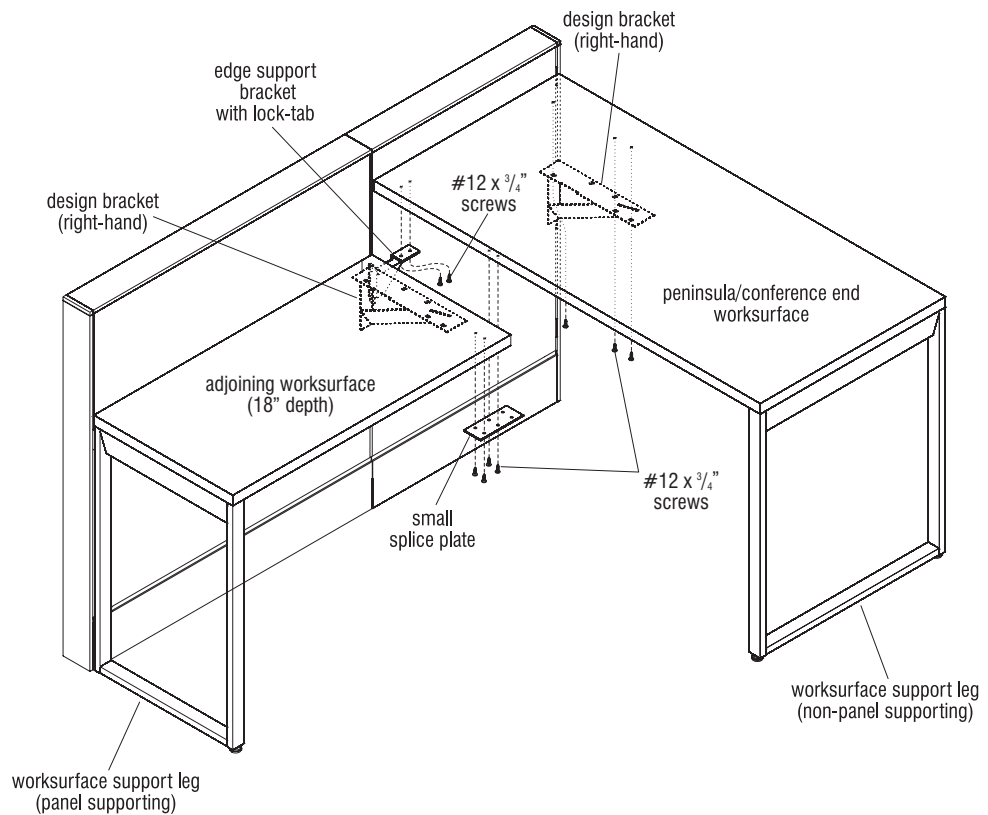

Figure 18 - Peninsula/Conference End Worksurface Installation
4. Carefully turn the peninsula or conference end worksurface right-side up next to the adjoining worksurface and position the panel-mount end onto the mounting brackets installed to the panel (edge support bracket and design bracket illustrated). Align the pre-drilled holes in the underside of the worksurface with the mounting holes in the brackets and secure using #12 x 3/4" screws. Take care to not over-tighten mounting screws (Figure 18).
5. Position a small splice plate under both the peninsula/conference end worksurface and the adjoining worksurface as illustrated. Align small splice plate to pre-drilled mounting holes under both worksurfaces and secure using two #12 x 3/4" screws per worksurface underside. Take care to not over-tighten screws (Figure 18).